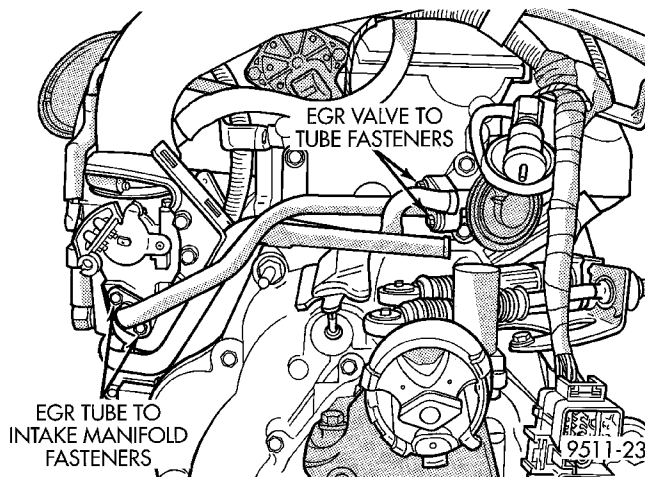

Fig. 26 EGR Tube Assembly
- (16) Disconnect wiring from starter.
- (17) Remove EGR tube bolts at the valve and at the intake manifold (Fig. 26). Remove tube from engine.
- (18) Remove intake manifold fastener. Remove intake manifold.